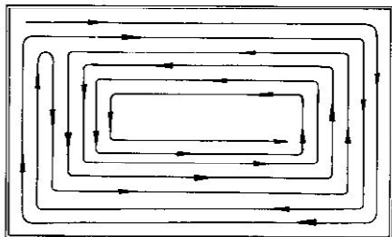

FIG. 14. Mowing Pattern
5. Turn to the right when beginning to mow large open areas to discharge clippings away from borders such as sidewalks, fences, driveways, etc. After making two or three passes this way, mow in the opposite direction turning to the left to finish. (See Fig. 14).